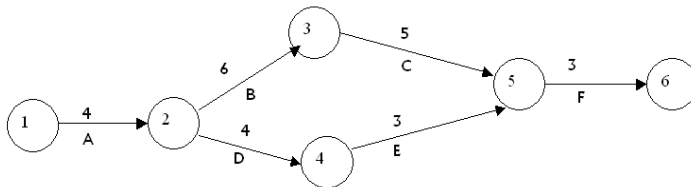

Figure2: Network diagram
8. A small engineering project consists of 6 activities namely A, B, C, D, E and F with duration of 4, 6, 5, 4, 3 and 3 days. Details are shown in the network diagram (Figure2). Calculate EST, LST, EFT, LFT and floats. Mark the critical path and find total project duration